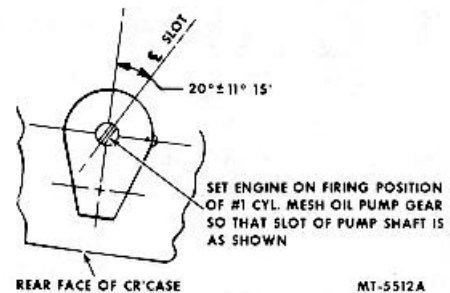

Fig. 118
NOTE: In engines having a rear mounted distributor, the oil pump must be installed so slot in end of shaft is position as shown in Fig. 118 when pump drive gear is meshed with camshaft gear and No. 1 cylinder is in firing position.
- b. Check for correct alignment of pump in block. Pump shaft should rotate freely without binding if correctly aligned (Fig. 118).